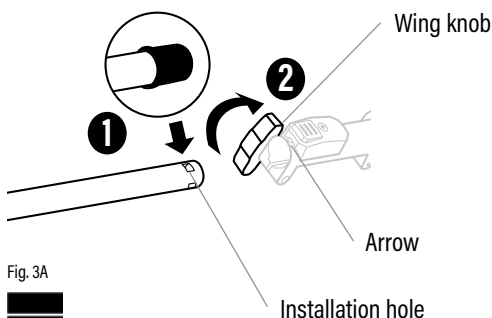

Fig. 3A
1. Remove the tube protection cap before installation. (Fig. 3A, 1)
2. Loosen the wing knob. (Fig. 3A, 2)